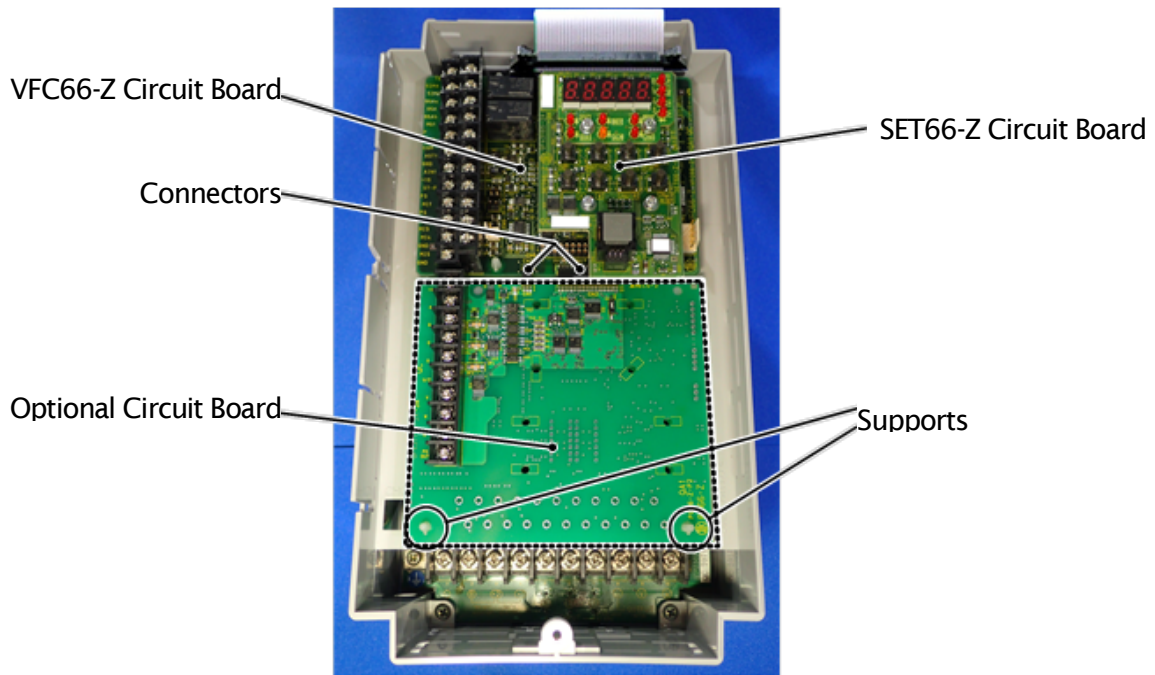
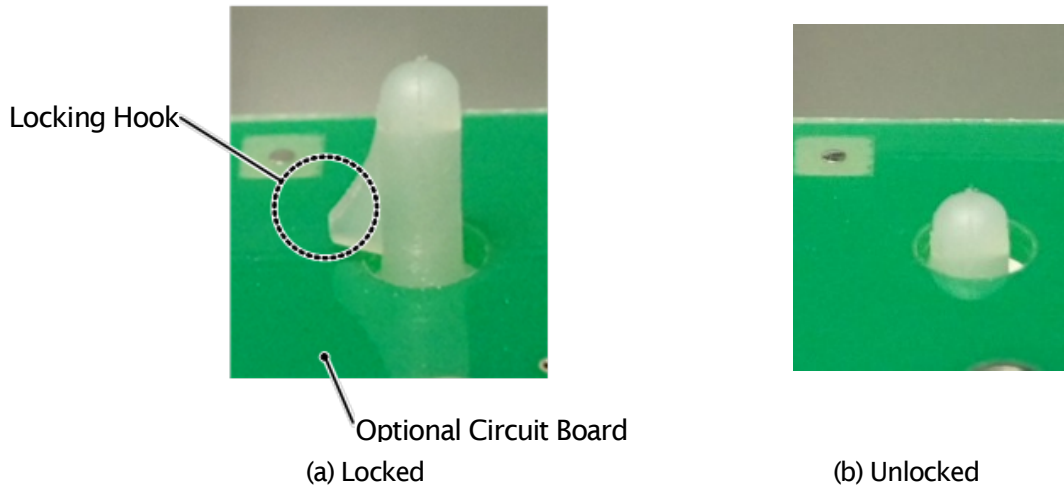

Figure 3.6 ASYC66-Z Installation Position (VF66B-2R222)
Figure 3.8 Support Locking Hook
- (1) Confirm that the power is off before performing any work.
- (2) Install the ASYC66-Z board in the location designated by the dotted lines shown in Figure 3.6. (The figure shows the VF66B-2R222 model, however, the installation location is the same for other models.) If another optional circuit board is already installed, remove it by following the procedure described below. If another optional circuit board is not already installed, skip to (6).
- (3) In order to safely remove the optional circuit board, first remove the SET66-Z board. Remove the 4 screws indicated by the circles in the figure on the right. Pull the SET66-Z board away from the VFC66-Z board in order to detach it.
- (4) 2 board supports are included to mount the optional circuit board to the inverter housing, as indicated by the circles in Figure 3.6. Press down on the board support locking hooks as shown in Figure 3.8 (a) to remove the board. Do not lift the bottom edge of the board too much, the connectors could be damaged.
- (7) Align the four holes of the ASYC66-Z board with the 2 board supports indicated by the circles in Figure 3.6. Push down on the board until the support locking hooks snap into place as shown in Figure 3.8 (a).
- (8) Install the SET66-Z board to its original position.
- (9) Return the inverter unit cover lid to its original position.